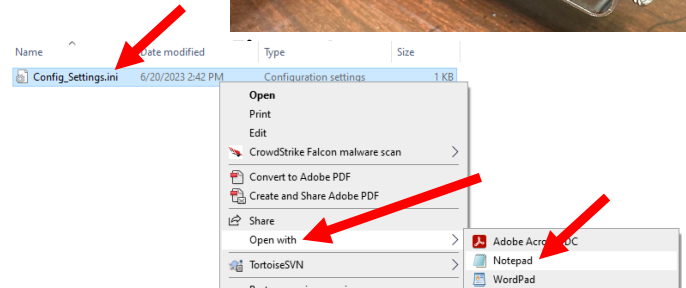

Figure 2
- Open explorer and right click on the file named Config\_Settings.ini and open with Notepad to edit the file (see Figure 2).